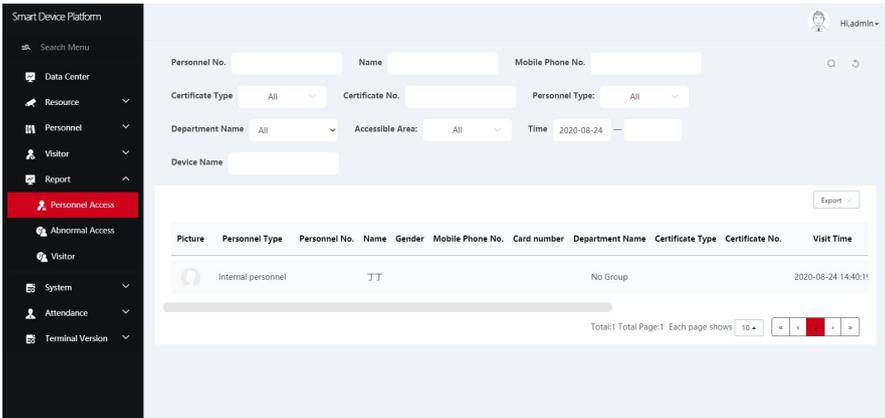

Figure 5-57
Step 1: In the smart device platform interface, click "Report→Personnel Access" to enter the personnel access interface, as shown in Figure 5-57 below.